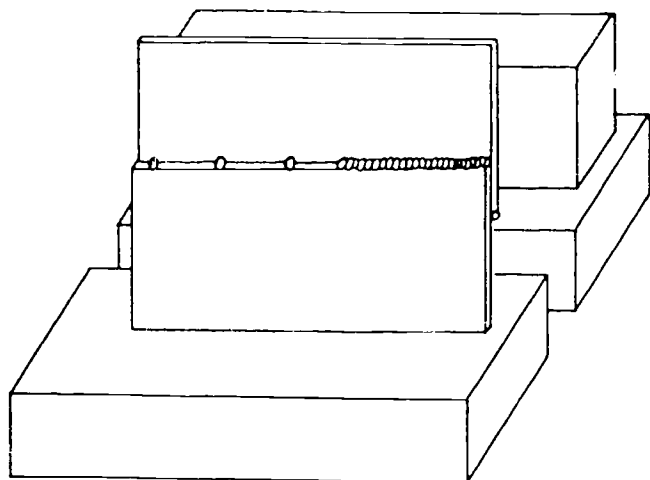

Figure 2-6. Horizontal lap joint.
**Horizontal Position.** When you weld joints with the joint edges horizontal, as illustrated in figure 2-6, the tip should be held at an angle of  $45^\circ$  to the plate surface and inclined slightly in the vertical plane to direct the flame upward. The slight inclination of the tip keeps the molten metal from sagging to the lower edge of the weld. Move the tip slightly from side to side to deposit the metal uniformly along the joint. Add the filler rod to the upper edge of the molten pool to permit an even distribution of weld metal.